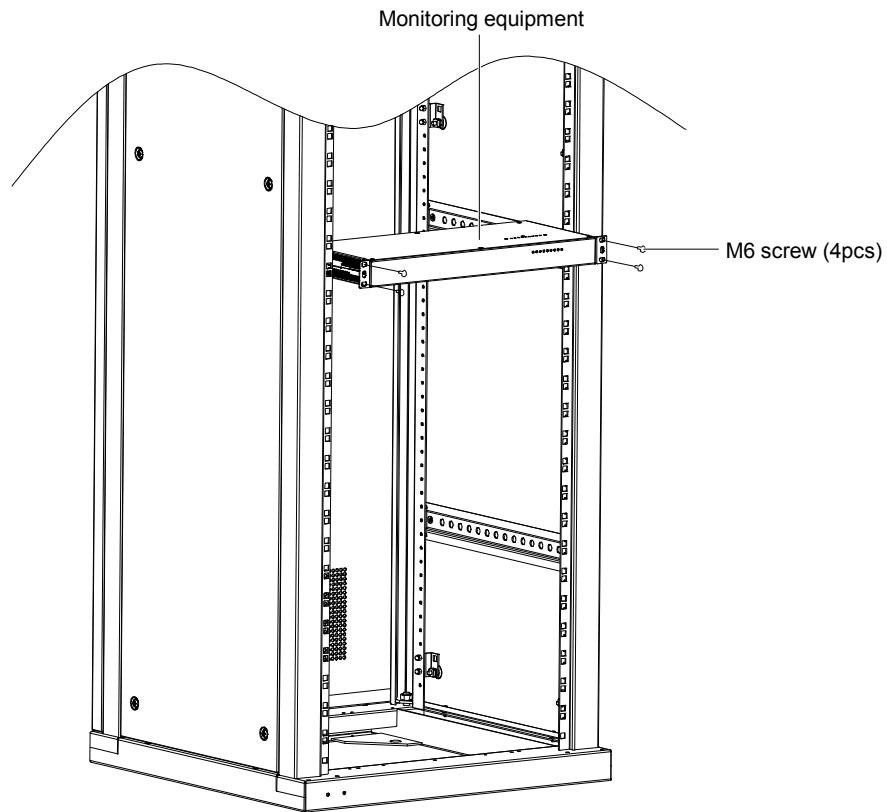

Figure 2-6 Installation in cabinet
4. Put the monitoring equipment on the guide rails in the cabinet and push it into the cabinet completely, as shown in Figure 2-6.